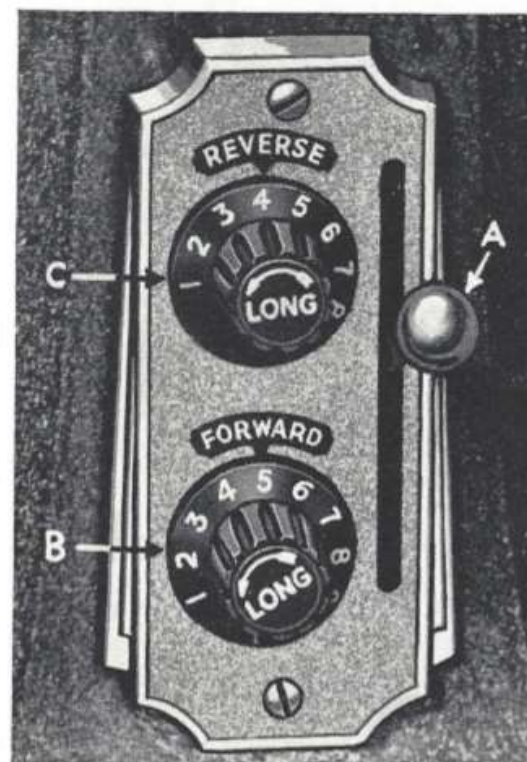

FIGURE 14
**See Fig. 14.** To reverse the feed and sew backward at any time, without stopping the machine, merely press shift lever (A) down in slot. The pressure of one finger is sufficient, and while lever is being held down the sewing will feed backward. When lever is released it returns automatically to its top position in the slot and the machine sews forward again in the regular way. The lever may be moved up and down at will, regardless of the speed at which machine is running. This is a fool-proof device as it is impossible for the operator to leave the machine set for reverse stitching.
**See Fig. 14.** The length of the stitch for normal sewing (forward) is regulated by the lower dial (B) and pointer. No. 1 on the dial indicates the shortest stitch and No. 11 the longest for regular sewing.